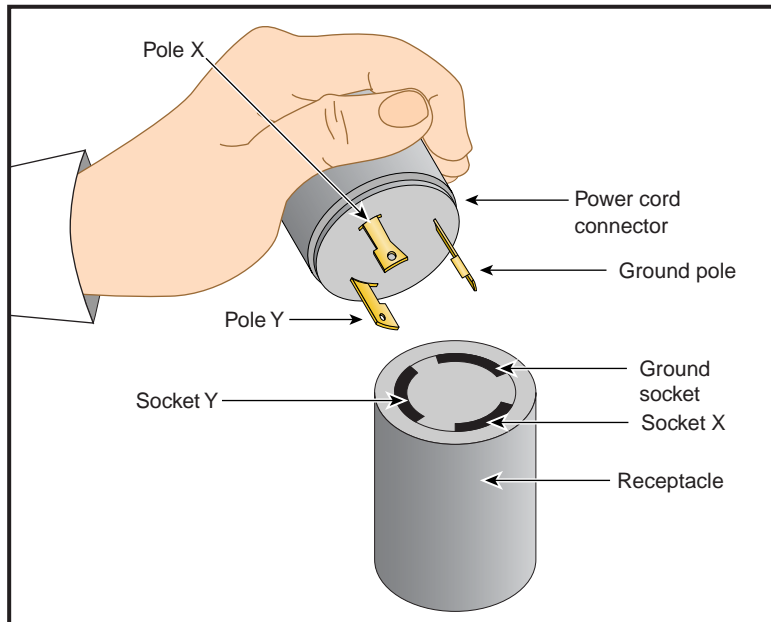

Figure 1-4 Single-phase Power Receptacle for North America and Japan
2. Check the voltage between socket X and socket Y (see Figure 1-4). The meter should read between 200 and 240 VAC.